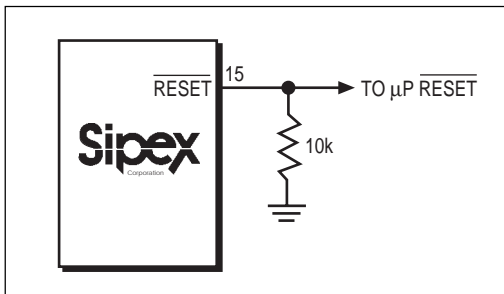

Figure 4. Adding an external pull-down resistor ensures $\overline{\text{RESET}}$ is valid with V_{CC} down to GND.
1.6mA at $V_{OUT} = 0.5\text{V}$. When no backup battery is used, $\overline{\text{RESET}}$ output is valid down to $V_{CC} = 1\text{V}$, and an external 10k Ω pull-down resistor on $\overline{\text{RESET}}$ ensures that $\overline{\text{RESET}}$ will be valid with V_{CC} down to GND as shown on Figure 4. As V_{CC} goes below 1V, the gate drive to the $\overline{\text{RESET}}$ output switch reduces accordingly, increasing the $r_{DS(ON)}$ and the saturation voltage. The 10k Ω pull-down resistor ensures the parallel combination of switch and external resistor is 10k Ω and the output saturation voltage is below 0.4V, while sinking 40 μA . When using a 10k Ω external pull-down resistor, the high state for the $\overline{\text{RESET}}$ output with $V_{CC} = 4.75\text{V}$ is 4.5V typical. For battery voltages greater than or equal to 2V, $\overline{\text{RESET}}$ remains valid for V_{CC} between 0V and 5.5V. $\overline{\text{RESET}}$ will be asserted during the following conditions: